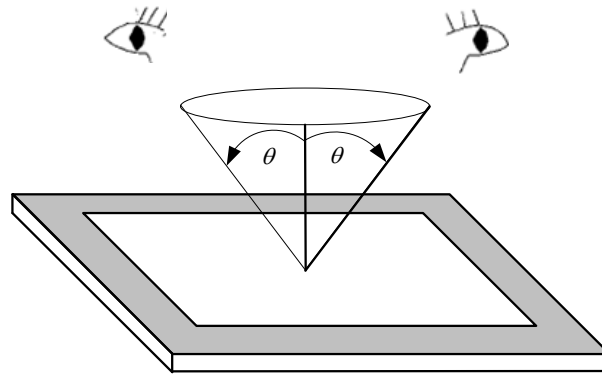

Fig. 11.1
- The viewing zone is defined with angle θ shown in Fig. 11-1. The inspection should be performed within 45° when display is shut down. The inspection should be performed within 5° when display is power on.